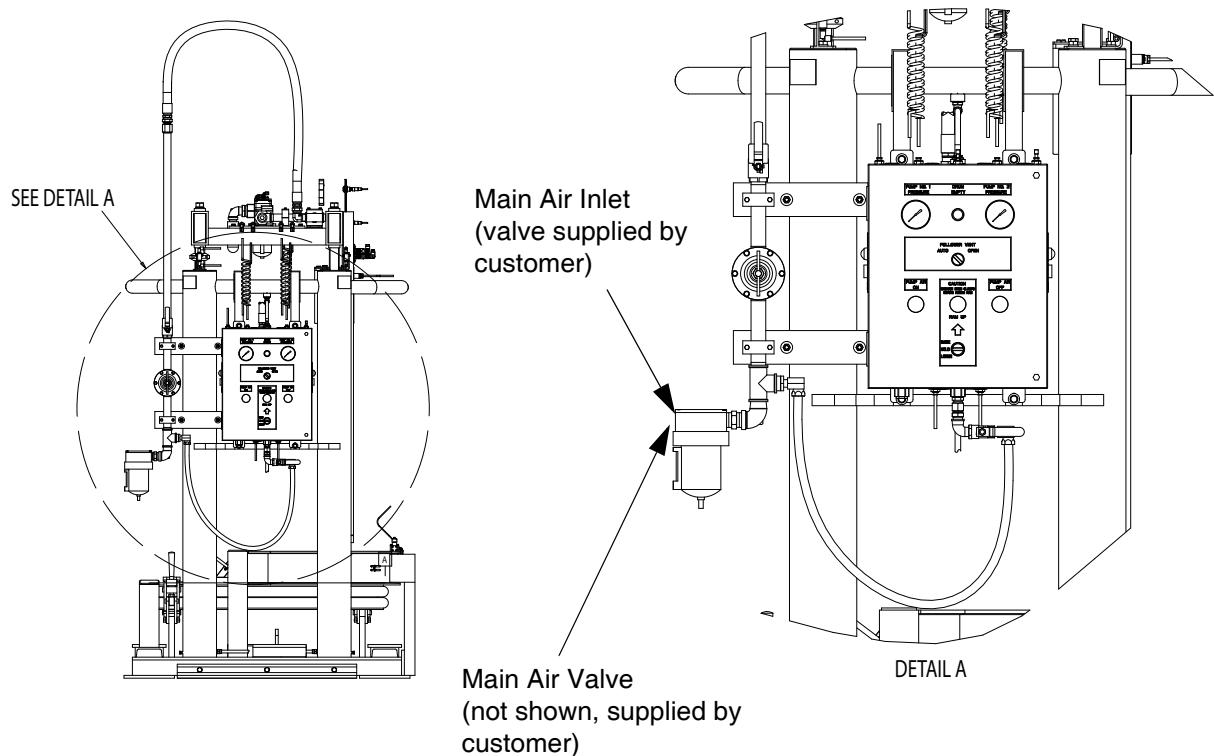

FIG. 12: U81368 shown
- a. Open the main air valve to the supply unit. See FIG. 12.
1. Close the main air valve inlet to remove air pressure from the system. See FIG. 12 on page 31.
1. Close the main air inlet valve. See FIG. 12 on page 31.